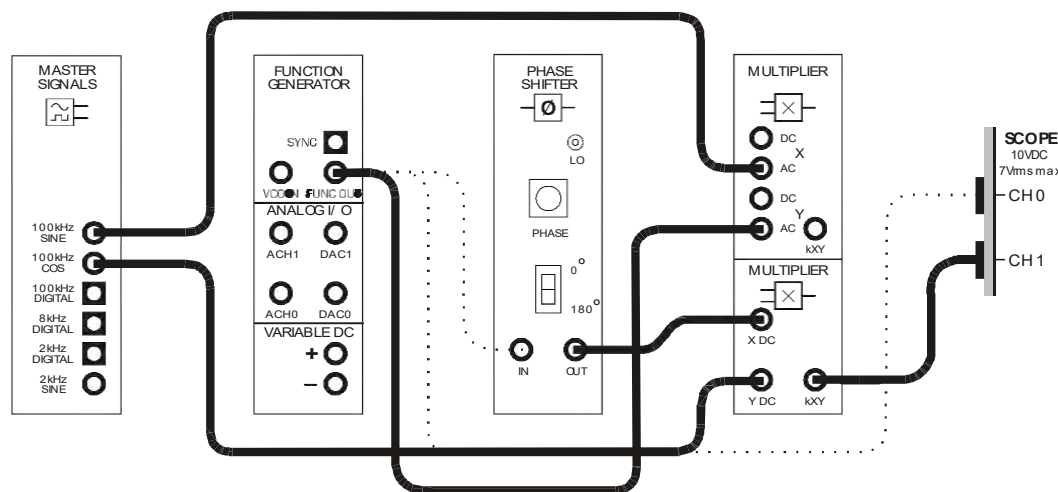

Figure 5
20. Modify the set-up as shown in Figure 5 below.